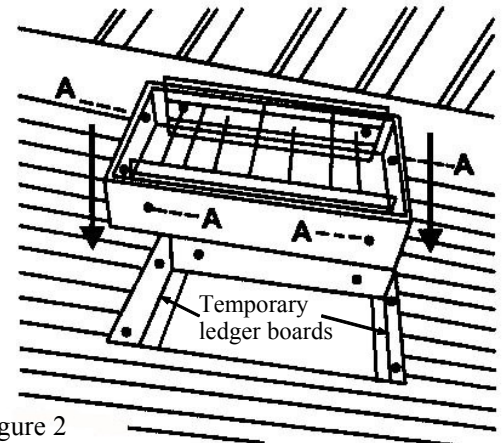

Figure 2
4. Lift the stairs through the opening in the ceiling and lower the unit onto the temporary support ledgers. Make sure that the hinged end of the cover is installed so that the stairs open in the desired direction (Fig.2) .
5. Do not open the cover at this time. Secure the hinged side of the frame to the header using four 2 ½" screws (A).